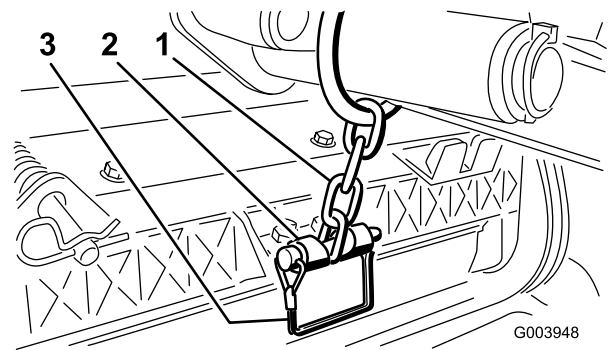

Figure 10
12. Secure the lift arm chain to the chain bracket with the snapper pin (Figure 10). Use the number of chain links described in the cutting unit *Operator's Manual*.